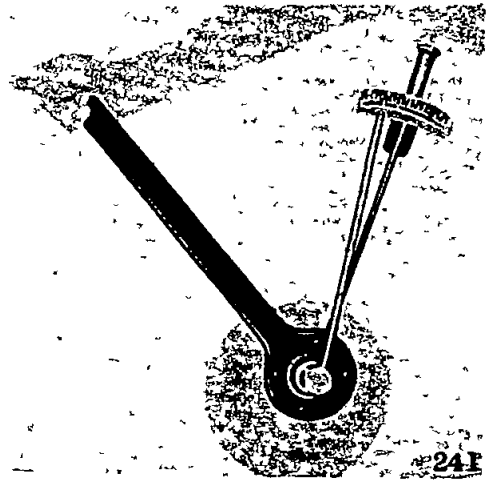

Fig. 7 Use of Drive Pinion Bearing Pre-load Gauge
Tighten up the pinion nut by turning it slowly with hands with the use of pre-load gauge as Fig. 7 to the degree that support the bearing pre-load at 7-10 kg/cm.
- (5) The formal adjustment of the drive pinion, bearing and preload. After the fixing position of drive pinion is decided as mentioned in the previous paragraph, take off the pinion nut & companion flange to mount again the drive pinion bearing spacer (distance piece) and nut. Tighten up the nut as Fig. 7 by using the torque wrench at the regular torque of 100-120 ft/lbs (1400-1680 kg-cm). The preload supportedly the bearing in this case is different according to the condition of the bearing adjusting shim inserted. The more of the shim inserted, much the play of pinion to the direction of axle is increased.